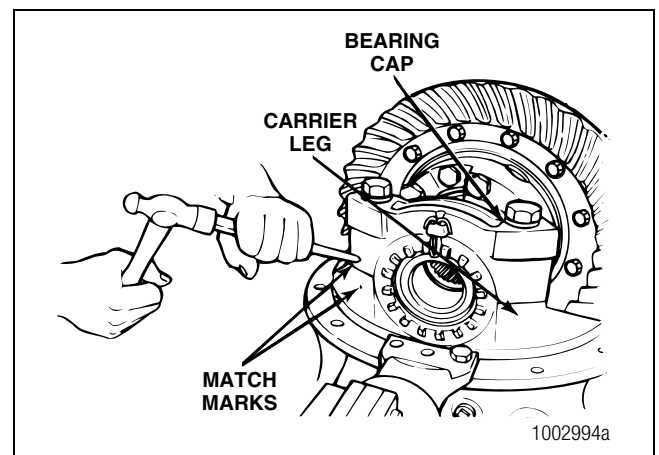

Figure 3.41
2. Use a punch and hammer to mark the position of each bearing cap on the differential carrier legs. The marks help you correctly match the caps to the carrier legs during assembly. Figure 3.41.